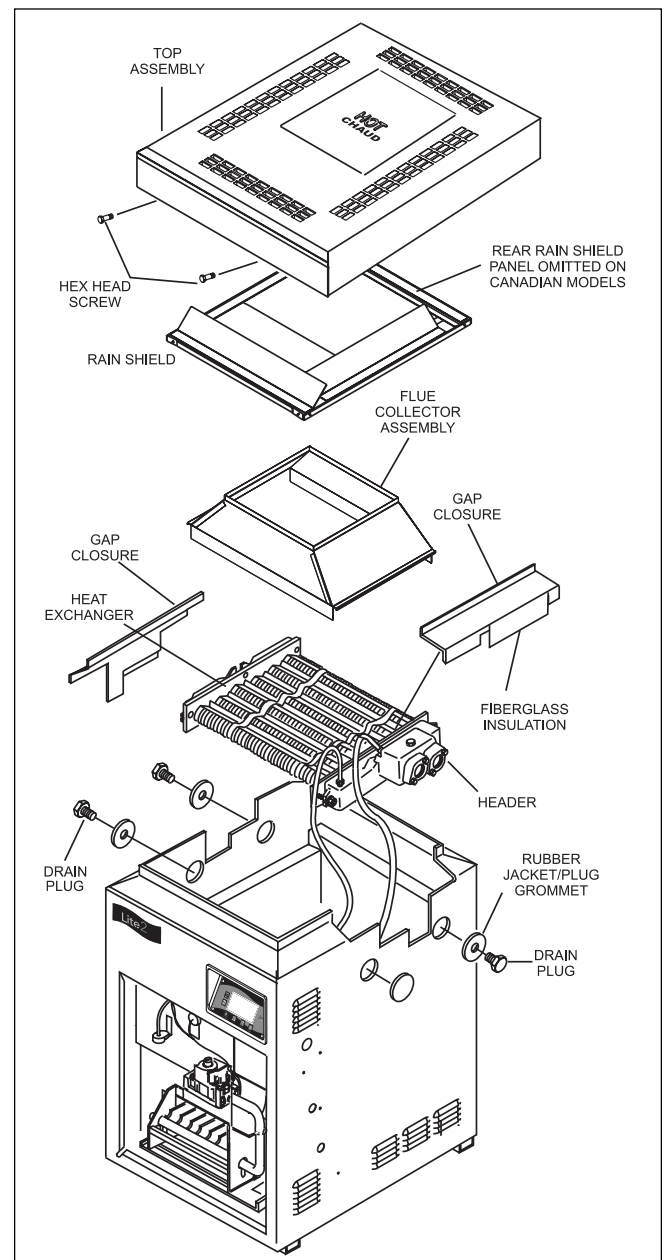

Figure 7. Heat exchanger reversal.
2. Remove all 8 hex-head screws fastening the top and lift the top assembly straight up (see Figure 7).
6. Remove the three rubber jacket/plug grommets and drain plugs (see Figure 7). One is located under the water connections on the right side. The other two are on the left side of the heater.
7. Tag and disconnect the white wire on the pressure switch (PS) and the white wire from the fusible link.